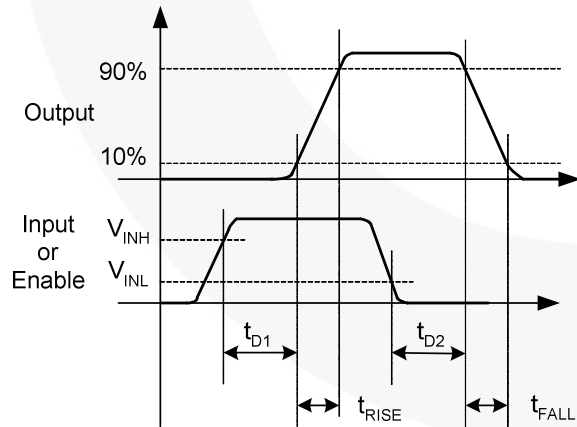
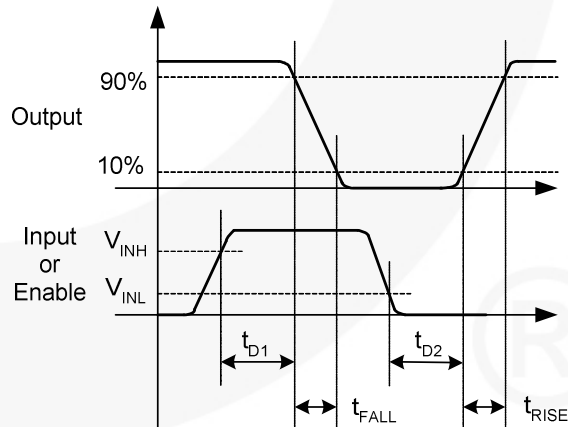

Figure 9. Non-inverting
Figure 10. Inverting
- 10. See Timing Diagrams of Figure 9 and Figure 10.